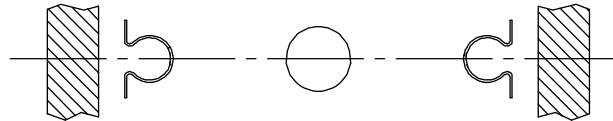

Figure 2 - Rail and Jack Centerline
1. Compare the center line of the rails and the jack hole to hoistway layout. See Figure 2.